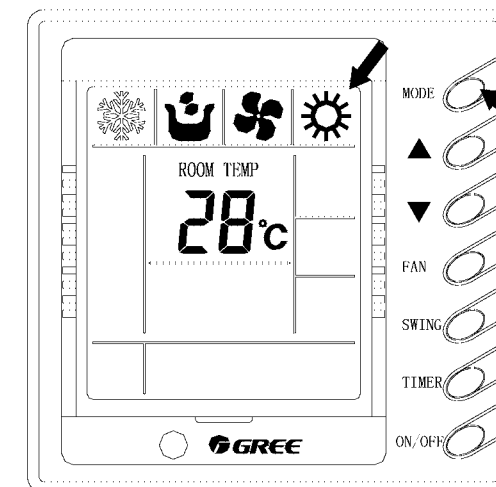

Fig8
7) The running mode setting (Fig. 8)